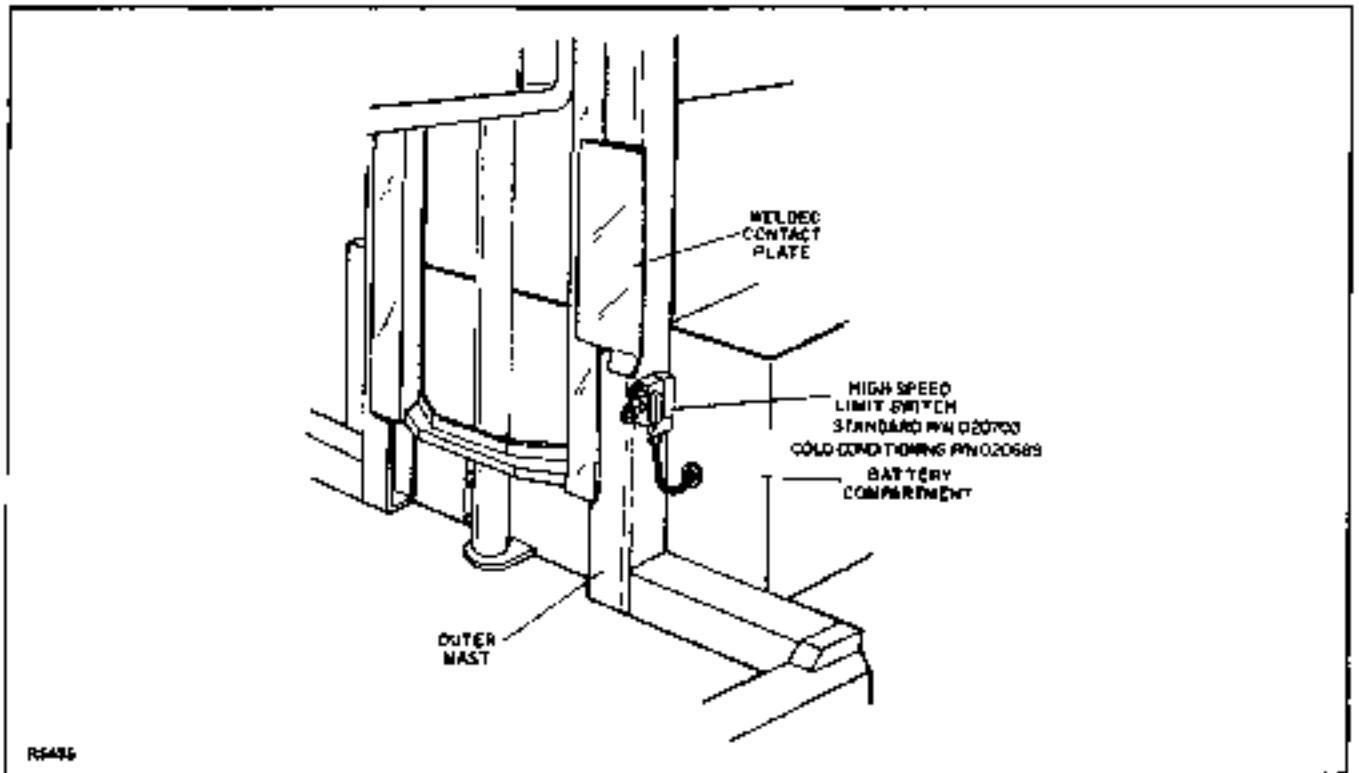

Figure 10-3. High Speed Limit Switch
2. Remove high speed limit switch (Figure 10-3) and then disconnect wiring from the switch.